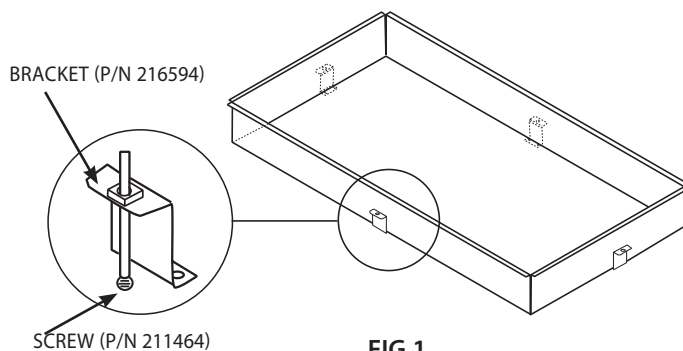

FIG.1
- Step 5: Square the cooktop to the cutout and install the (4) retaining brackets onto the 8 holes for CDU-365 and (2) retaining brackets onto 4 holes for CDU-304 located at the bottom of the unit (See Figure 1 below). If the retaining brackets are not installed, the cooktop will not pull down to countertop.